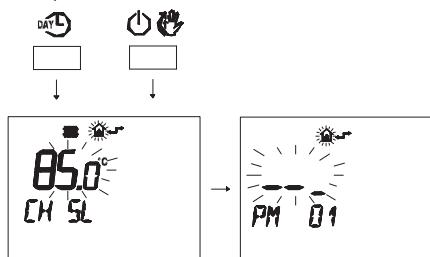

Fig. 8.19
- Press buttons **DAY L** and **ON/OFF** at the same time to enter transparent programming (Fig. 8.19).